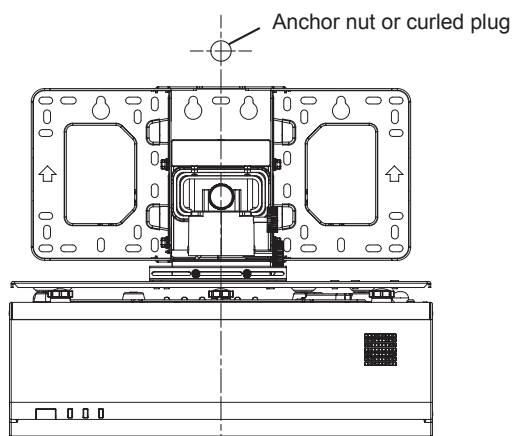

Fig.1
**1) Mount the anchor nut or curled plug (M10) firmly in the concrete wall. (Fig.1)**